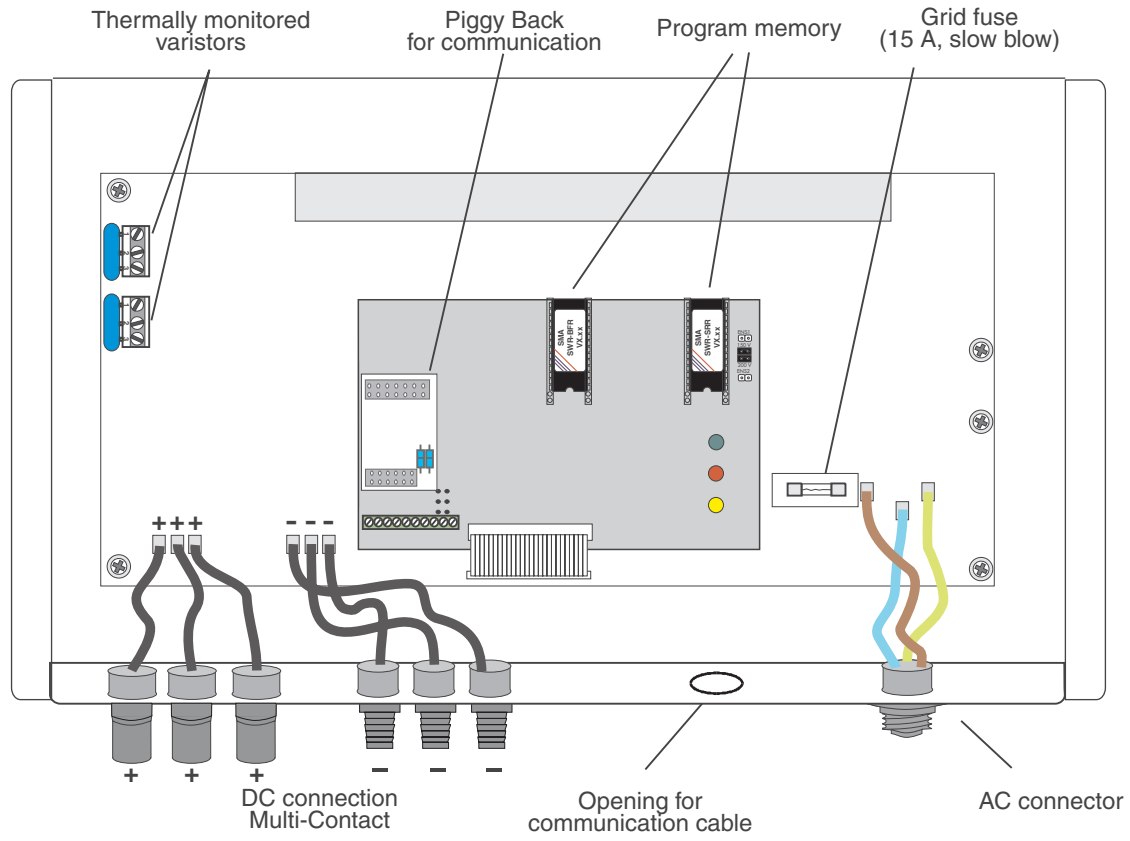

Fig. 5.3: Interior of the Sunny Boy 2500
- Remove the two internal thermally monitored varistors (see Fig. 5.3 “Interior of the Sunny Boy 2500”) with a screwdriver.
If you do not find any failure have the grid connection to the Sunny Boy checked by a qualified electrician. Check the correct connection and the fuse in the Sunny Boy (see Fig. 5.3: Interior of the).